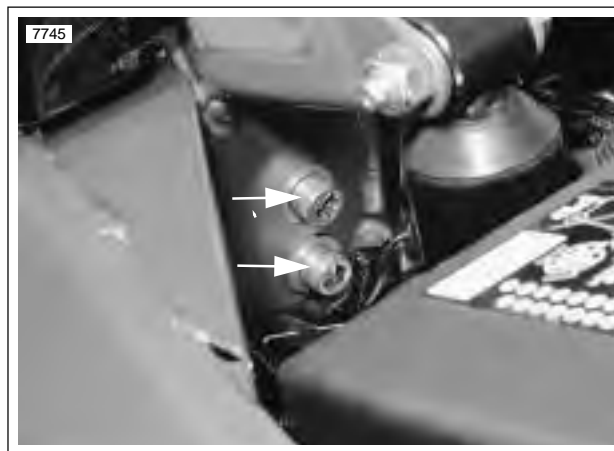

Figure 2-122. Frame-to-Isolator Bolts
6. See Figure 2-122. Remove two allen bolts connecting frame to isolator.
3. See Figure 2-122. Apply Loctite Threadlocker 271 (red) to the two frame-to-isolator bolts. Tighten bolts to 30-33 ft-lbs (41-45 Nm).